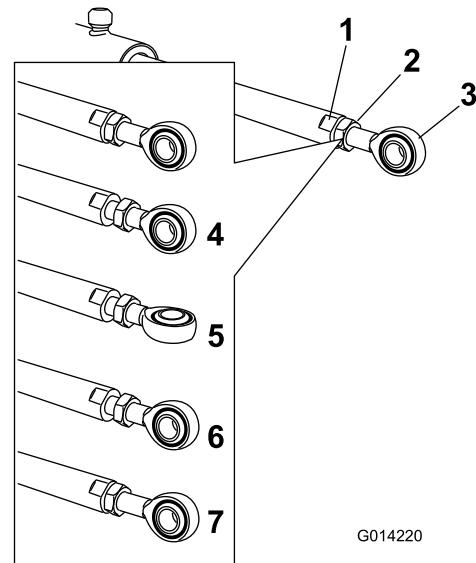

Figure 35
5. Use a wrench on the flat sides of the actuator rod to immobilize it, then loosen the jam nut to allow the eyelet rod to be manipulated (Figure 35).
6. Turn the eyelet rod in the actuator rod to shorten or lengthen the extended actuator to the desired position (Figure 35).